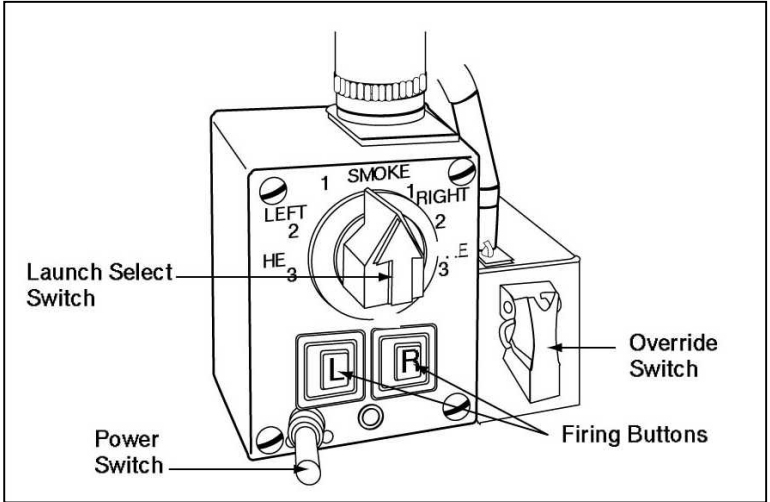

Figure 4-2-8: Smoke Fragmentation Grenade Control Box
26. **Smoke Grenade Launcher Control Box.** The smoke grenade launcher control box (see Figure 4-2-8) is located to the left of the gunner, bolted to the turret casing centred between the gunner display panel and the gunner control box. The box consists of a power switch, power ON indicator light (red), launcher select switch and left and right bank firing buttons. The operation of the smoke grenades is described in Lesson 10 of this Chapter.